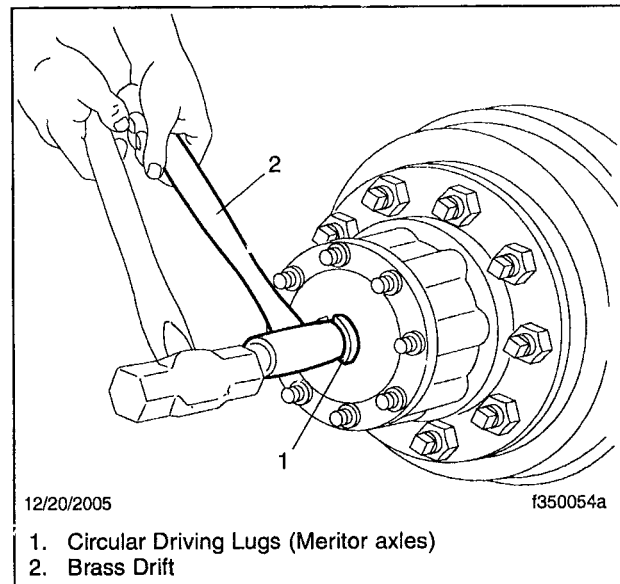

Fig. 2, Striking the Center of the Axle Driveshaft
6. Using a hammer and a brass drift, sharply tap the center portion of the driveshaft flange, between the circular driving lugs (Meritor axles). See **Fig. 2**. The driveshaft (and the tapered dowels, if so equipped) will usually spring slightly outward after the seal has broken.